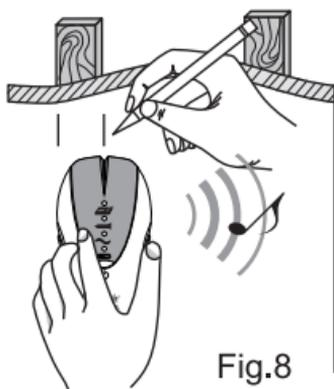

Fig.8
3. Continue scanning beyond the marked spot until the LED go out. Slide unit in reverse direction to locate other edge of stud. Mark this second spot. Middle of stud is centered between the two marks. (fig.8)